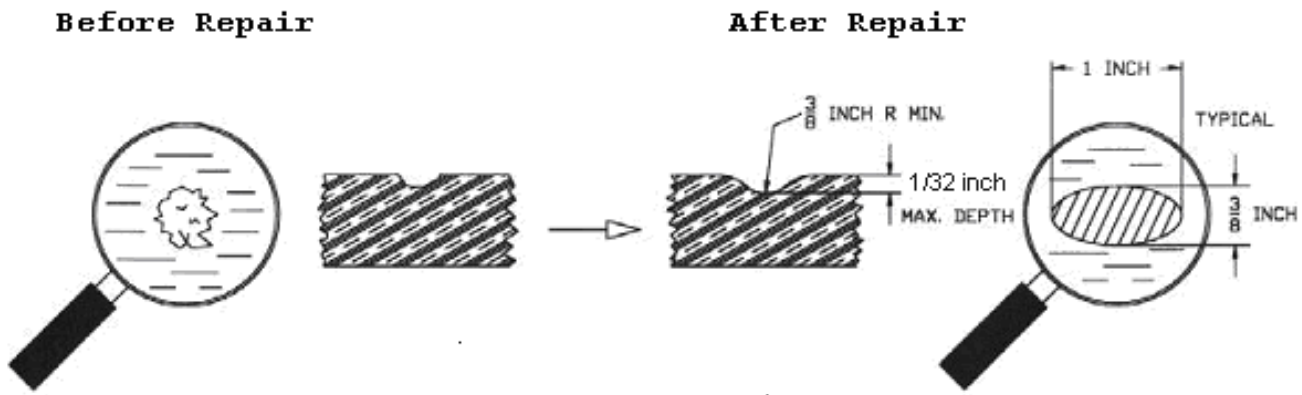

FIGURE 5. MINOR HUB REPAIR LIMITS
Any hub or spacer that would exceed what is depicted in **Figure 5**. for minor repair must be retired from service. These dimensions (other than radius) are maximum allowable. Anything less is acceptable. Radius can be greater. A hub can be returned to service with the following limitations:
1. Sand the area with 220 wet-or-dry abrasive paper until all evidence of damage or corrosion is removed. A small motorized grinding tool may be used. The repaired area must not exceed the limits shown in **Figure 5**.